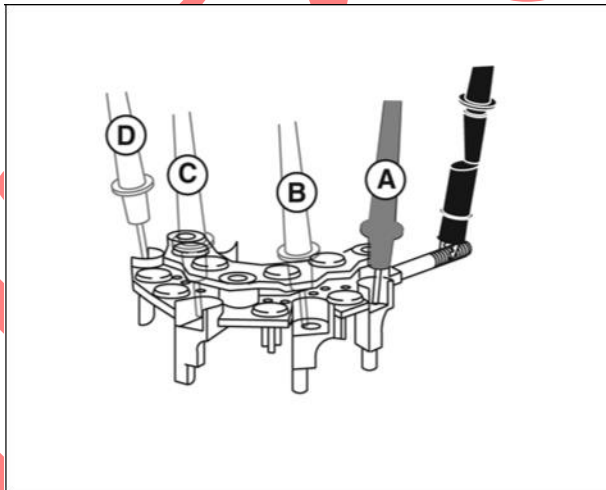

Figure 33
5. Attach RED test lead to one of the three rectifier mounting holes (Figure 33). Leave attached through Step 7.
6. Contact (A) terminal with BLACK meter test lead.